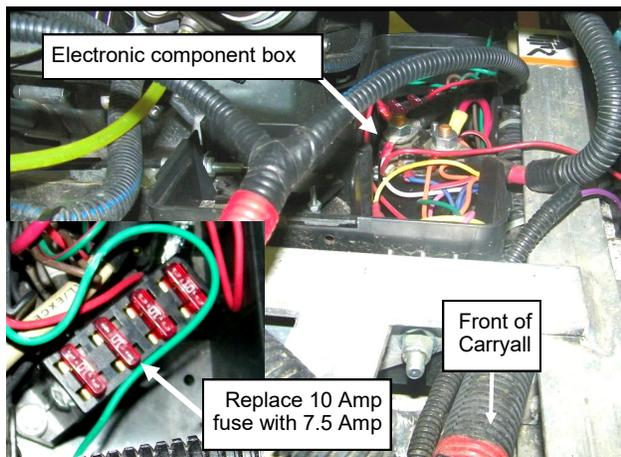

Figure 8.4: Electronic Component Box (Gasoline vehicles only)
- 8.4 Remove the screw that secures the cover to the electronic component box in the compartment under the driver seat as shown. Retain the screw and cover for reinstallation. (**Figure 8.4**).